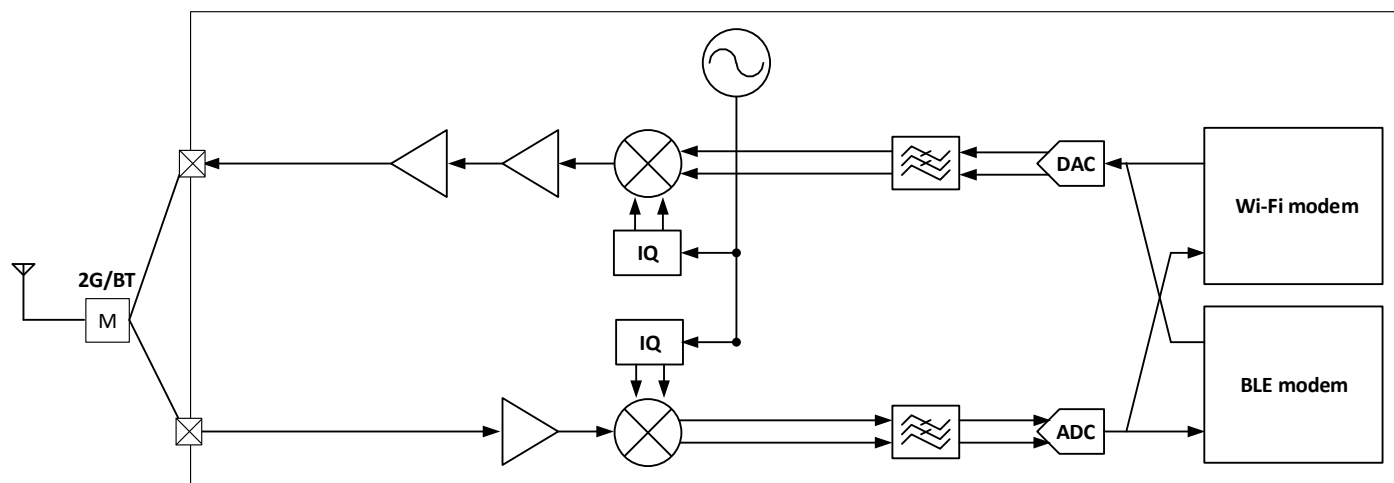

Figure 6-1 RF block diagram
The radio frequency (RF) block diagram of RTL872xCS, including Wi-Fi and BLE modem, is given in Figure 6-1.